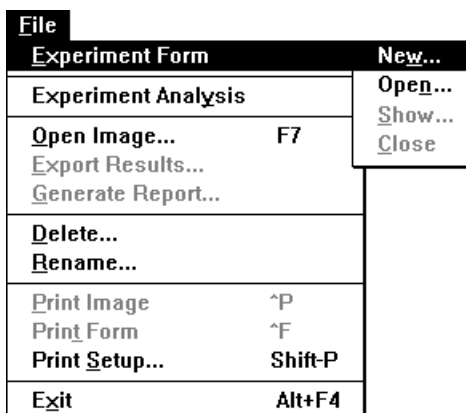

Figure 3-1. Opening the Experiment Form window.
To access a new form, open the **File** menu and select **Experiment Form**, and then select **New** from the submenu (figure 3-1). The Experiment Form window appears.
2. In the File menu, click **Experiment Form**. A menu of options appears (figure 3-1).